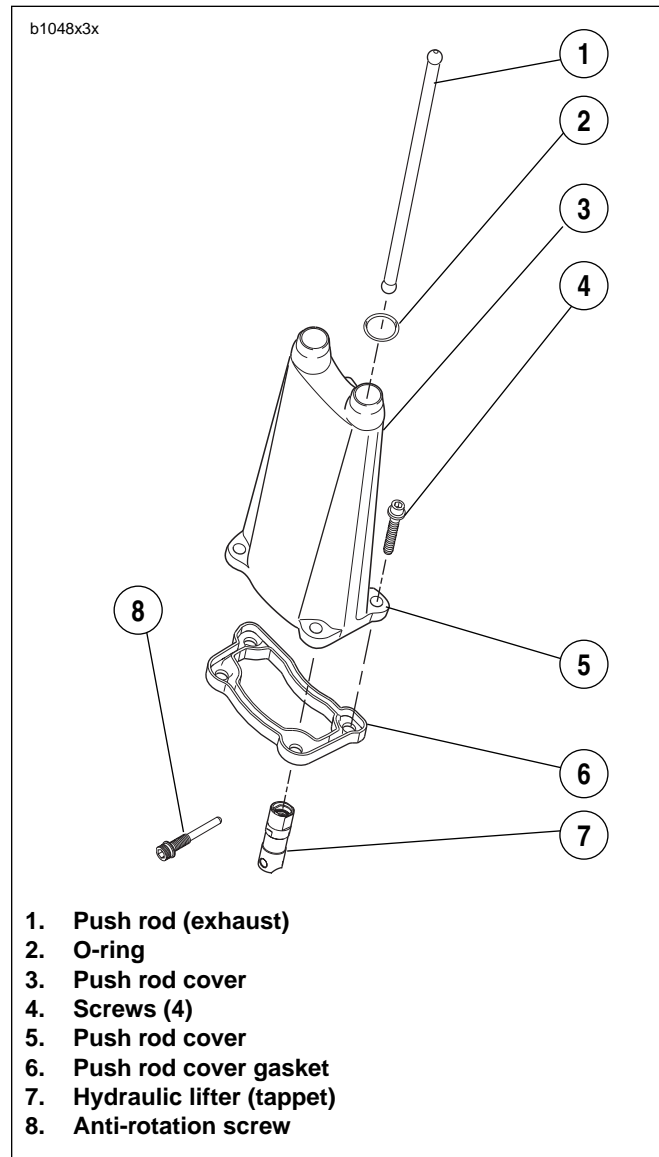

Figure 3-127. Valve Lifter Service
4. See Figure 3-127. Remove push rod covers.
3. See Figure 3-127. Insert lifter into bore in crankcase. Rotate lifter so that flats at upper end of lifter face the front and rear of the engine. If the lifter is installed incorrectly, anti-rotation screws cannot be inserted.
5. See Figure 3-127. Install push rod cover.